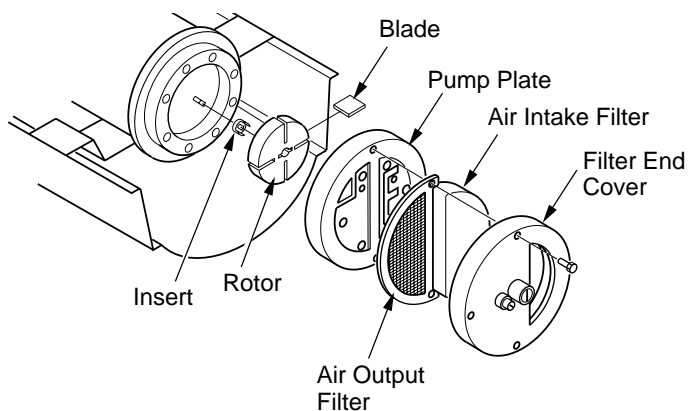

Figure 28 - Rotor Location, 40/55/60/70 Models
2. Remove filter end cover screws using 5/16" nut driver (see Figure 28 or 29).
6. Remove rotor, insert, and blades (see Figure 28 or 29).